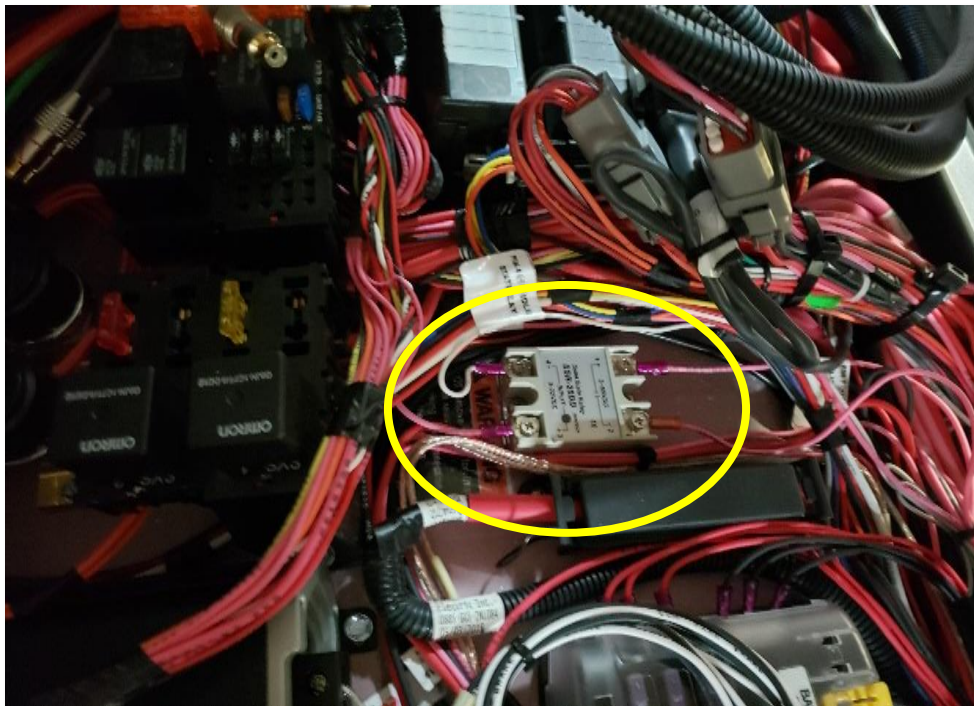

FIG 2-1
2. Locate the solid-state relay in the center switch console, as shown in FIG 2-1.